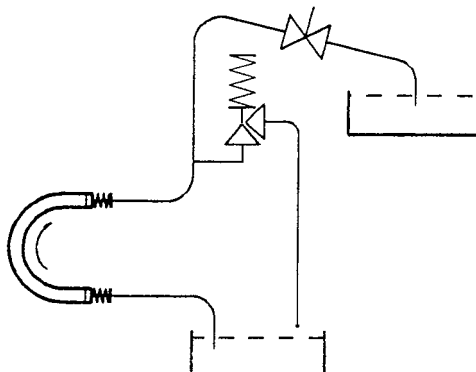

Figure 2.5 - Pressure Relief Valve
- Pressure Relief Valve – If there is the possibility of a valve being closed on the discharge pipe, provide a pressure relief valve. The same danger can exist on the suction piping in the event of inverse rotation. (See Figure 2.5.)